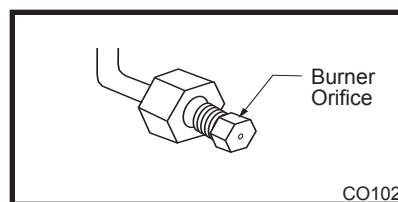

Fig. 62 Remove burner orifice, replace with conversion orifice.
2. Remove burner orifice from manifold assembly using 1/2" wrench. (Fig. 62)